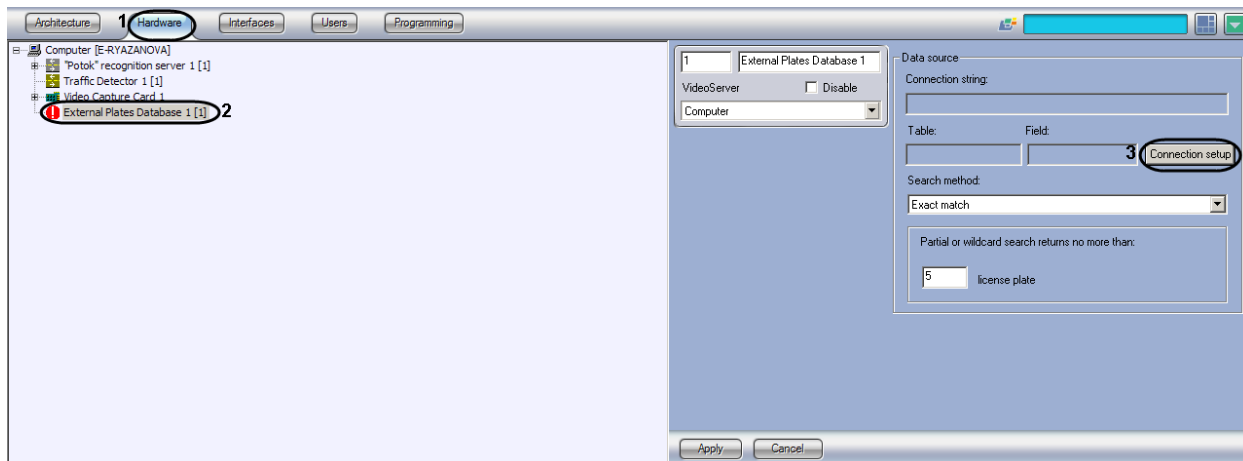

Fig. 7.5-1 External Plates Database connection. Connection setup window
1. Open the Hardware tab in the System Settings window (see Fig. 7.5-1, 1).
2. Select the External Plates Database object in the object tree (see Fig. 7.5-1, 2).
3. Click the Connection setup button to open the Connection setup window (see Fig. 7.5-1).